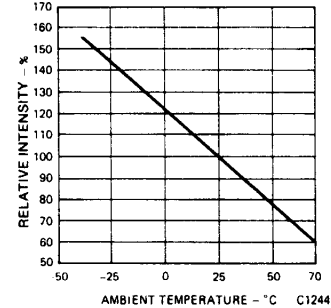

Fig. 3. Luminous Intensity vs. Temperature (See Note 2)
- The digit average Luminous Intensity is obtained by summing the Luminous Intensity of each segment and dividing by the total number of segments. Intensity will not vary more than ±33.3% between all segments within a digit. - The curve in Figure 3 is normalized to the brightness at 25°C to indicate the relative efficiency over the operating temperature range. - Leads of the device immersed to 1/16 inch from the body. Maximum device surface temperature is 140°C. - For flux removal, Freon TF, Freon TE, Isopropanol or water may be used up to their boiling points. - All displays are categorized for Luminous Intensity. The Intensity category is marked on each part as a suffix letter to the part number.